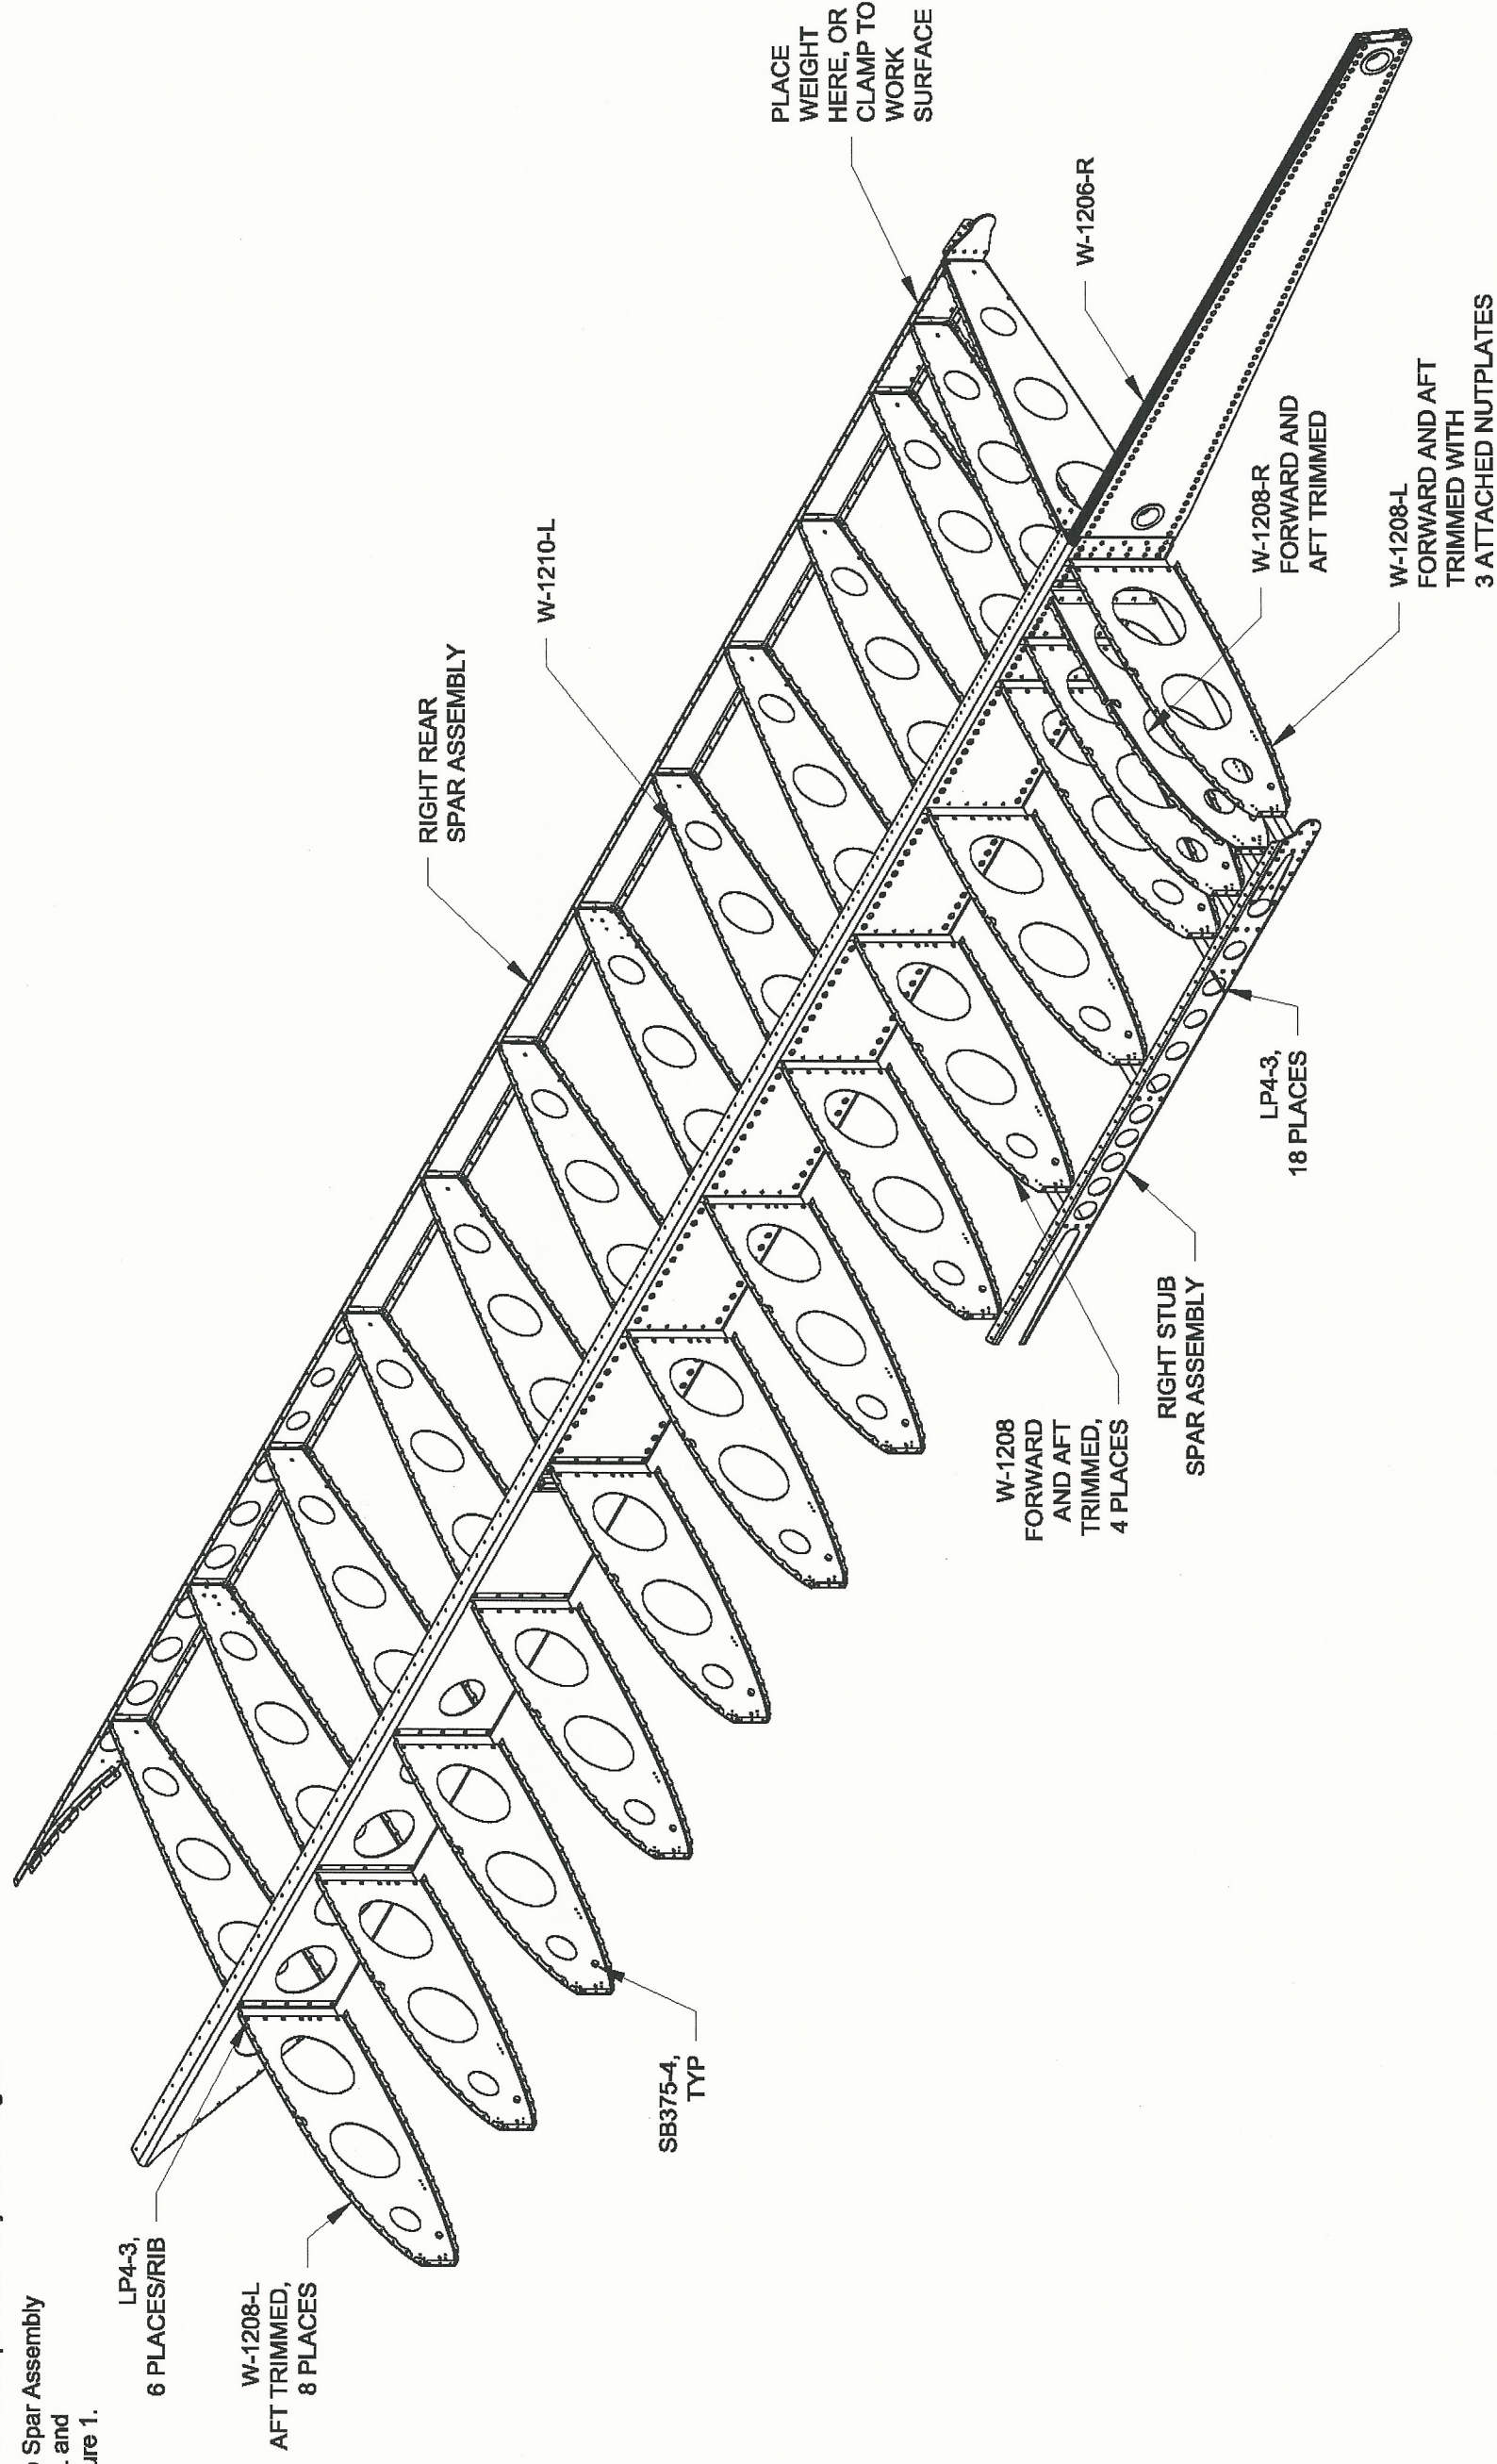

FIGURE 1: ATTACHING THE NOSE RIBS
NOTE: With the bottom of the W-1210 Main Ribs resting on the work surface, a weight or clamp may be applied to the aft portion of the wing assembly to hold it in position for attaching the W-1208 Nose Ribs. Take care not to bend the flanges of the W-1210 Main Ribs. See Figure 1.
Step 1: Cleco then rivet the eight remaining aft trimmed W-1208-L Nose Ribs to the W-1206-R Spar Assembly attach angles, starting outboard and working inboard. See Figure 1.
Step 5: Cleco then rivet the Right Stub Spar Assembly to the forward flanges of the W-1208-L and W-1208-R Nose Ribs as shown in Figure 1.
Step 6: Insert the snap bushings in the W-1208 Nose Ribs as shown in Figure 1.